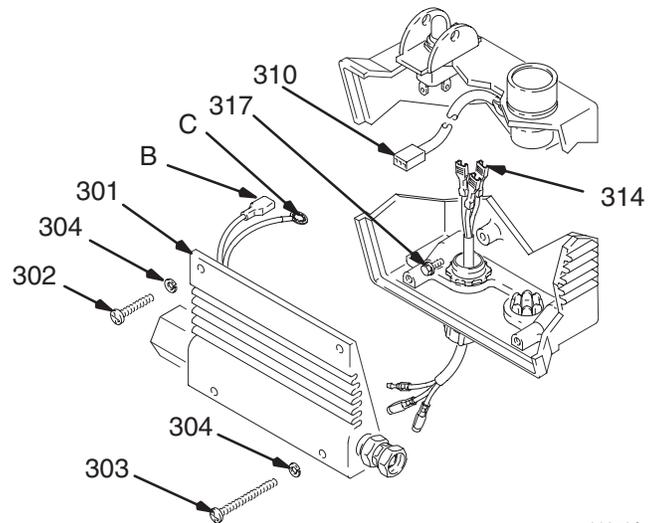

Fig. 23
7. Remove the four mounting screws and washers (302, 303, 304) from the pressure control cover (301). See Fig. 23.
8. Carefully remove the pressure control cover (301) so as not to stress the cables.
9. Disconnect the black and white wires of the pressure control cable (314) from the pressure control cover.
10. Disconnect the potentiometer cable assembly (310) from the pressure control cover.
11. Disconnect the red power lead (B) from the ON/OFF switch.
12. Loosen the ground terminal screw (317) and disconnect the ground lead (C).